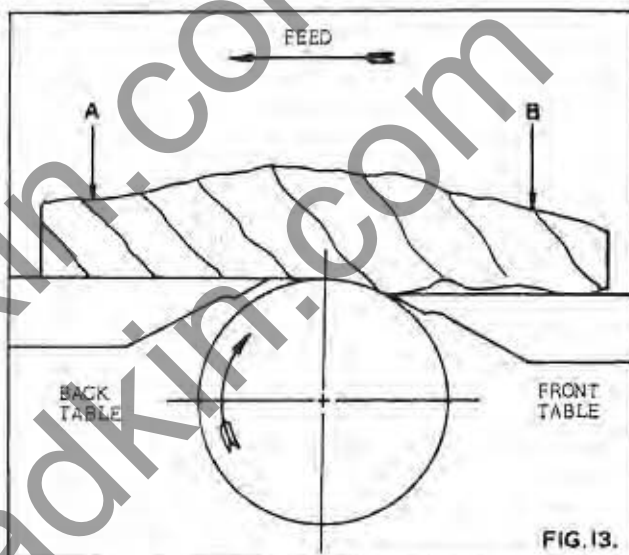

FIG. 13.
2. To obtain a perfectly flat surface especially with warped stock always put maximum pressure on the back table at "A" in Fig. 13 and as little as possible on the front table at "B".